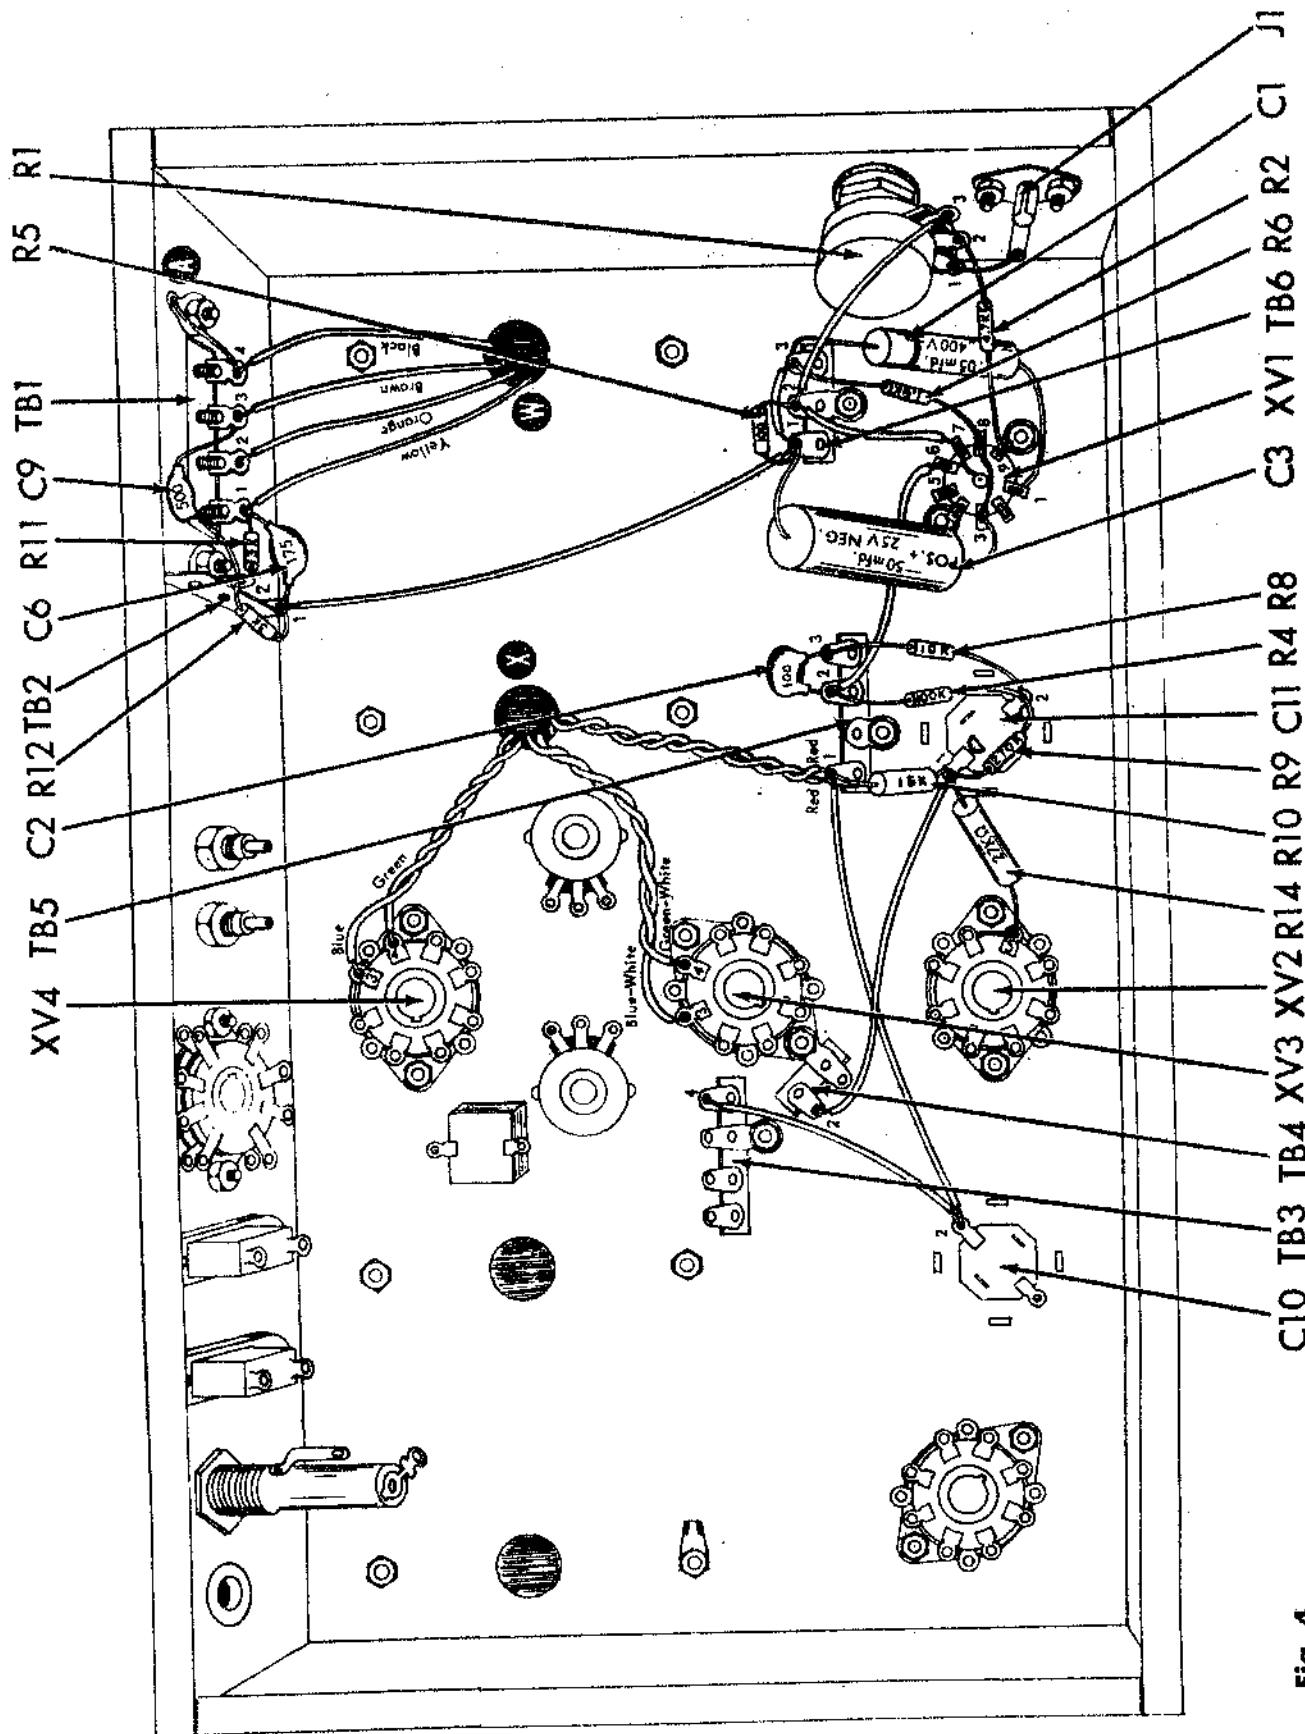

Fig. 4
7. () Fig. 2, side C & Fig. 4. Mount the output transformer, T1. Orient the transformer so that the proper colored leads emerge from holes "X" and "Y" on Fig. 3. Use four #10-32 hex nuts and four #10 lockwashers.
1. () Fig. 4. Connect a 5" red lead from C11-1 (C) to TB4-2 (C).
2. () Fig. 4. Connect a 4" red lead from C10-2 (C) to TB3-4 (C).
3. () Fig. 4. Connect a 6" red lead from C10-2 (S) to TB5-1 (C).
4. () Fig. 4. Connect a 27KΩ (red,violet,orange,gold) 5% resistor, R14, from XV2-5 (C) to C11-1 (C). Cut both leads to 3/4".
5. () Fig. 4. Connect a 270KΩ (red,violet,yellow,silver) 10% resistor, R9, from C11-1 (S) to C11-2 (C). Cut both leads to 1/2".
6. () Fig. 4. Connect a 15KΩ (brown,green,orange,silver) 10% resistor, R10, from C11-1 (S) to TB5-1 (C). Cut both leads to 1/2".
7. () Fig. 4. Connect a 100KΩ (brown,black,yellow,gold) 5% resistor, R4, from C11-2 (C) to TB5-2 (C). Cut both leads to 3/4".
8. () Fig. 4. Connect a 3" green lead from XV1-6 (S) to TB5-2 (C).
9. () Fig. 4. Connect a 100mmf disc capacitor, C2, from TB5-2 (S) to TB5-3 (C). Cut both leads to 1/2".
10. () Fig. 4. Connect a 10KΩ (brown,black,orange,silver) 10% resistor, R8, from C11-2 (C) to TB5-3 (S). Cut both leads to 1".
11. () Fig. 4. Connect a 1 1/2" black lead from TB6-1 (C) to TB6-3 (C).
12. () Fig. 4. Connect a 2 3/4" black lead from TB6-2 (C) through XV1-7 (S) to XV1-center post (S).
13. () Fig. 4. Connect a 1.6KΩ (red,blue,red,silver) 5% resistor, R6, from TB6-3 (C) through XV1-8 (S) to XV1-1 (C). Use a 1/2" piece of spaghetti between pins XV1-8 and XV1-3. Cut the lead to TB6 to a 1" length and the other lead to a 1 1/2" length.
14. () Fig. 4. Connect a .05 mf (green,black,orange,white,yellow) capacitor, C1, from TB6-3 (S) to XV1-1 (C). Cut the lead to TB6 to a 3/4" length and the other lead to a 1 1/4" length. Use a 1" piece of spaghetti on the 1 1/4" lead.
15. () Fig. 4. Connect a 1 1/2" piece of bare wire from J1 (S) to R1-1 (S).
16. () Fig. 4. Connect a 2" black lead from R1-3 (S) to TB6-2 (C).
17. () Fig. 4. Connect a 6" black lead from TB2-1 (C) to TB6-1 (C).
18. () Fig. 4. Cut the two red leads from hole "X" to 4". Twist the leads together and connect both leads to TB5-1 (S).
19. () Fig. 4. Cut the green-white lead from hole "X" to 3 1/2" and the blue-white lead to 4". Twist the leads together; then connect the green-white to XV3-4 (S) and the blue-white to XV3-3 (C).
20. () Fig. 4. Cut the green lead from hole "X" to 3" and the blue lead to 3 1/2". Twist the leads together; then connect the green lead to XV4-4 (S) and the blue lead to XV4-3 (S).
21. () Fig. 4. Cut all leads from hole "W" to 3 1/4". Connect the black lead to TB1-4 (C), the brown lead to TB1-3 (C), the orange lead to TB1-2 (S) and the yellow lead to TB1-1 (C).
22. () Fig. 4. Connect a 1 1/4" bare lead from TB1-4 (S) to ground lug "A" (S).
23. () Fig. 4. Connect a 175mmf disc capacitor, C6, from TB1-1 (C) to TB2-1 (C). Cut each lead to 3/4". Use 1/2" spaghetti on each lead.
24. () Fig. 4. Connect a 3KΩ (orange,black,red,gold) 5% resistor, R11, from TB1-1 (S) to TB2-2 (C). Cut each lead to 1/2".
25. () Fig. 4. Connect a 500mmf disc capacitor, C9, from TB1-3 (S) to TB2-2 (C). Cut each lead to 1". Use 3/4" spaghetti on each lead.
26. () Fig. 4. Connect a 3KΩ (orange,black,red,gold) 5% resistor, R12, from TB2-2 (S) to TB2-1 (S). Cut each lead to 3/4".
27. () Fig. 4. Connect a 4.7KΩ (yellow,violet,red,silver) 10% resistor, R2, from R1-2 (S) to XV1-9 (S). Cut leads to 3/4".
28. () Fig. 4. Connect a 100Ω (brown,black,brown,gold) 5% resistor, R5, from TB6-2 (S) to TB6-1 (C). Cut leads to 1/2".
29. () Fig. 4. Connect a 50 mfd, 25V electrolytic capacitor, C3, from XV1-3 (S) to TB6-1 (S). Connect + side to XV1-3. Cut leads to 3/4".